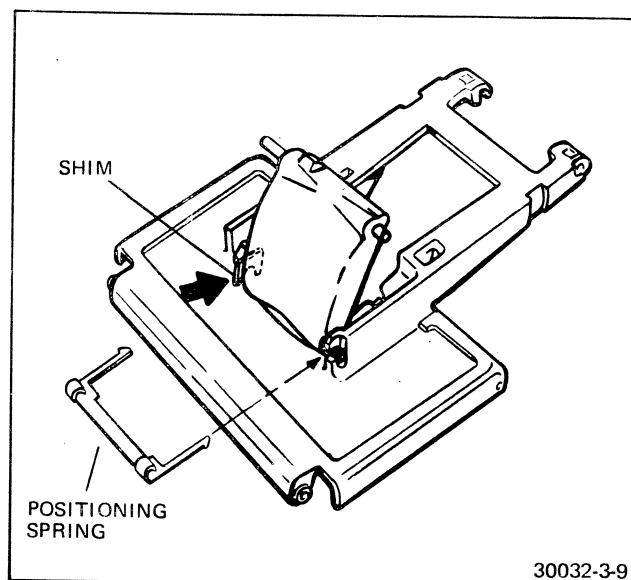

FIGURE 3-9 ORIENTATION OF SHIM AND POSITION SPRING
5. If you are unable to find a mirror position with a minimum blur, open the shade blades and displace the curved mirror sidewise. There is excess slop on some cameras that result in a de-centering of the curved mirror. This is visible by noticing the length of the 'rabbit ears', on either end of the top row. Non-symmetry of the 'ears' indicates non-symmetry of the mirror. Adjustment can be made to compensate for this error (see Figure 3-9) by means of a special shim. Use either a red or blue colored shim – differing thicknesses. Slip the shim over the right hand pivot of the concave mirror housing and press it down as far as it will go (Figure 3-9). Recheck viewfinder quality.
If the spot pattern improves to acceptable standards with the shim installed, then you have solved the problem. If the problem is caused by front and back play of the concave mirror at the pivot points, a new spring (the positioning spring) is to be installed to overcome this difficulty. See Figure 3-9 for the shape of the spring and the relative orientation where installed.